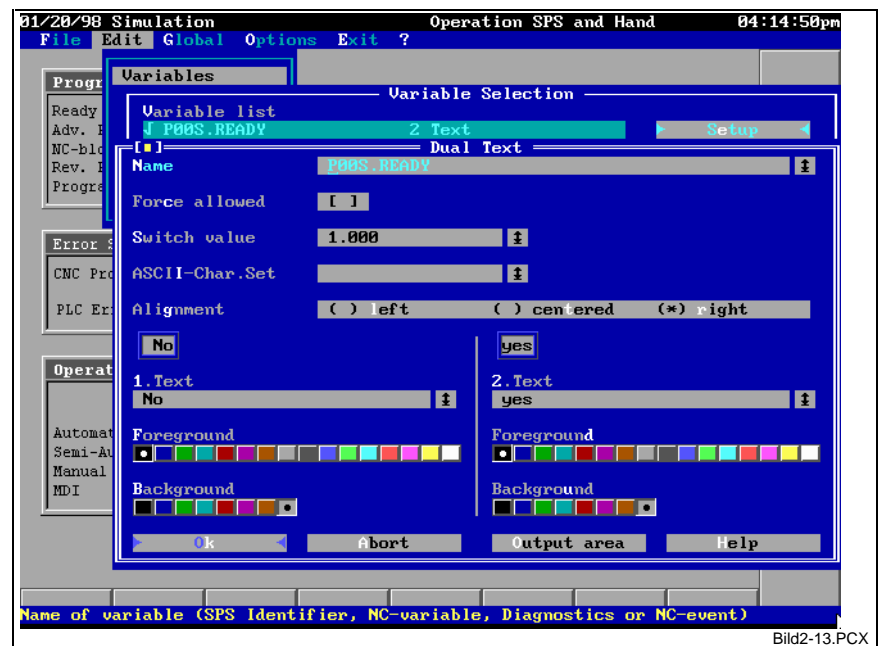

Fig. 2-13: Dialog for a '2 texts' display element
- The '2 texts' display element permits two alternative texts to be displayed instead of numbers. For example, 'No' and 'yes' can be displayed instead of '1' and '0'. Fig. 2-13 shows the dialog.